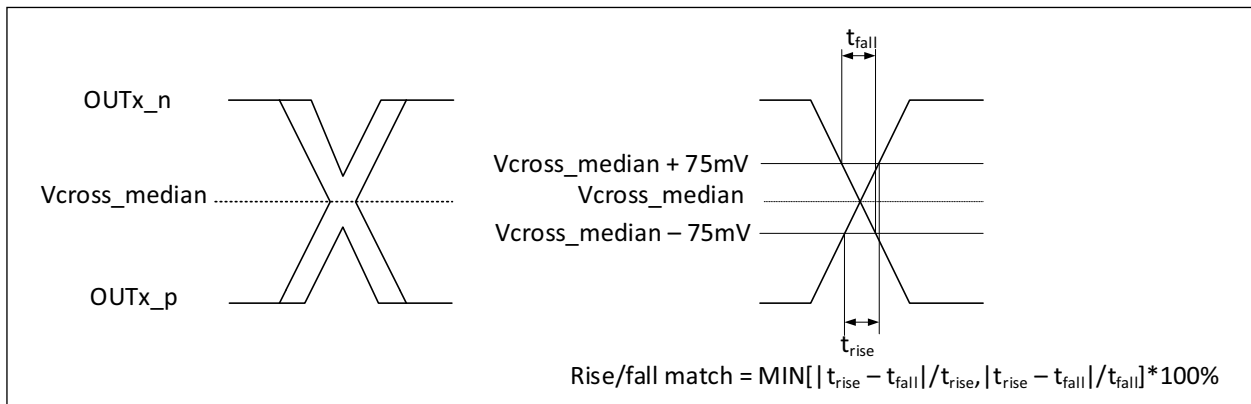

FIGURE 3-3: Single-Ended Measurement Points for Rise and Fall Time Matching.
- 13:** Matching applies to rising edge rate for CKx and falling edge rate for CK#x. It is measured using a ± 75 mV window centered on the median cross point where CKx rising meets CK#x falling. The median cross point is used to calculate the voltage thresholds the oscilloscope is to use for the edge rate calculations. The Rise Edge Rate of CKx should be compared to the Fall Edge Rate of CK#x the maximum allowed difference should not exceed 20% of the slowest edge rate. See Figure 3-3.
13: Matching applies to rising edge rate for CKx and falling edge rate for CK#x. It is measured using a ± 75 mV window centered on the median cross point where CKx rising meets CK#x falling. The median cross point is used to calculate the voltage thresholds the oscilloscope is to use for the edge rate calculations. The Rise Edge Rate of CKx should be compared to the Fall Edge Rate of CK#x the maximum allowed difference should not exceed 20% of the slowest edge rate. See Figure 3-3.